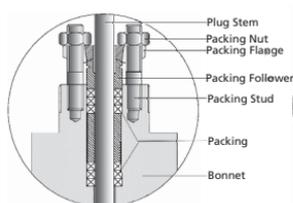

Figure 6
7.4 Packing Box (Figures 6 to 8)
- D. By means of a hooked instrument, remove packing (7) ensuring not to damage the sealing surfaces of the packing box or plug stem.
- E. Replace packing (7) referring to Figure 6 for correct amount of packing to place above the spacer.